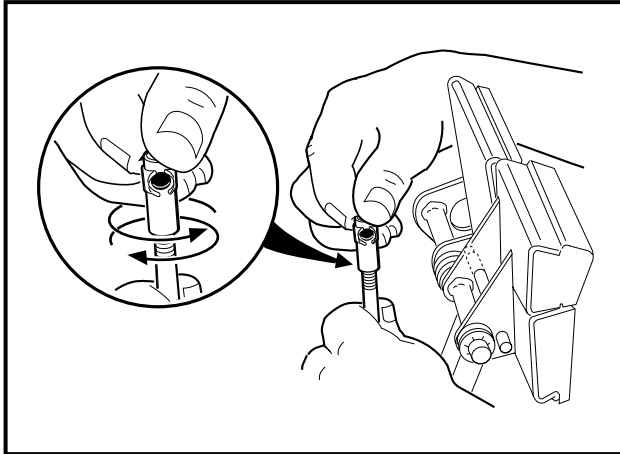

Figure 5-17 Brake Rod Adjustment
- 3.6. If ratchet/pawl engagement must be adjusted, disconnect the ball joint at the top of the brake rod and rotate the ball joint sleeve clockwise to increase engagement or counterclockwise to decrease engagement. Reconnect ball joint (**Figure 5-17, Page 5-19**).